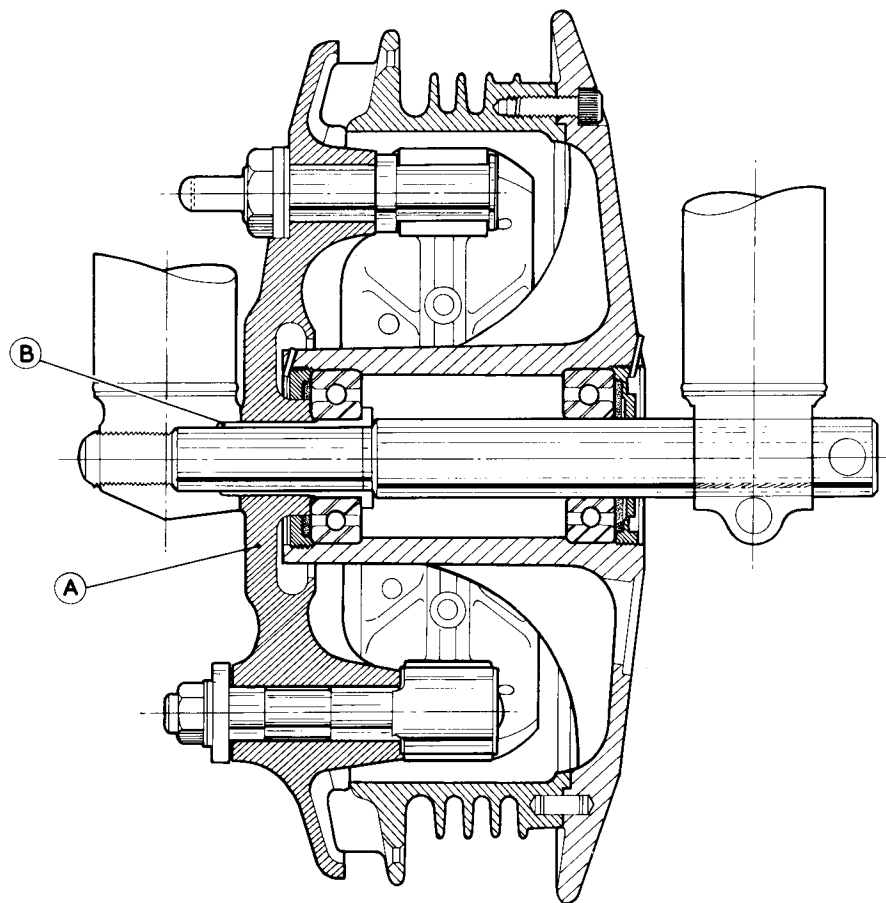

FIG. F.7. Section of 190 mm. hub.
The brake plate (A) is a push-fit over the bush (B), Fig. F.7.